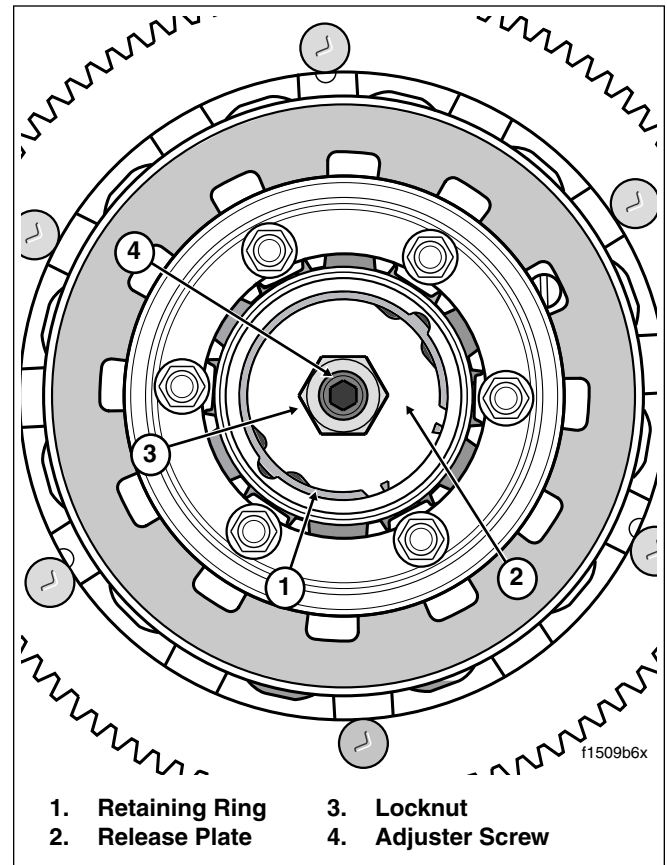

Figure 6-16. Clutch Hub Release Plate Assembly
10. Remove retaining ring and pull release plate (with lock-nut and adjuster screw) from clutch hub. See Figure 6-16.